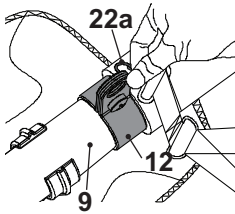

Fig. 15
3. Adjust the length of the harness (22) so that the securing clip (22a) is approximately 15 cm below your waist.
4. Attach the securing clip (22a) to the loop the suspension sleeve (12) (Fig. 15).